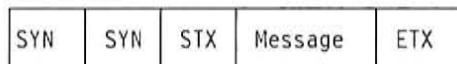

Figure 13-2. Frame Structure of Commands and Responses (BSC)
V.25 Bis commands and responses are carried in the message field of the BSC frame. The format of this frame is as shown in Figure 13-2.